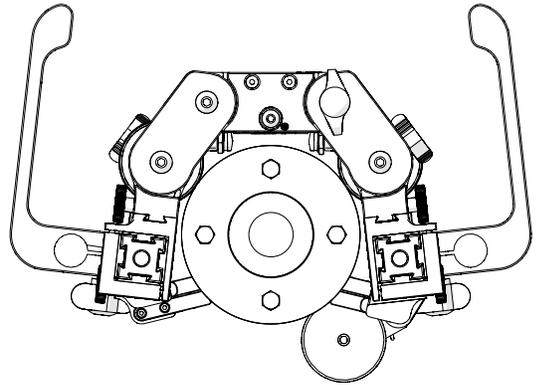

Fig. 15 - Place on inspection surface
5. Place the scanner on the flange to be inspected (Fig. 15).